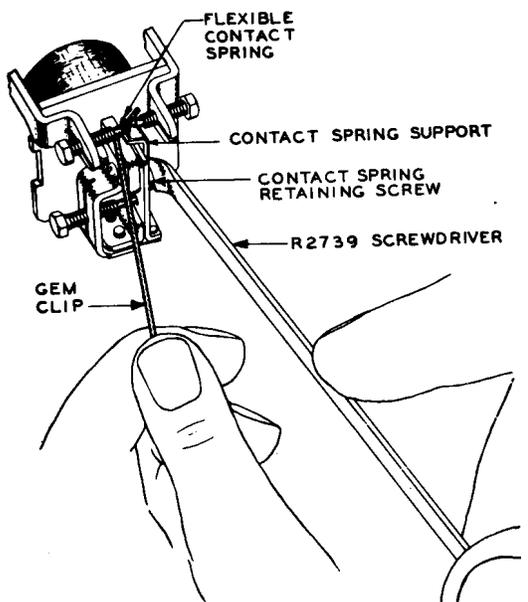

Fig. 8 - Method of Aligning the Contact Spring and Contact Spring Support
- (1) If the contacts are out of alignment, vertically, check whether the studs on the contact screw brackets rest in the slots in the spoolhead. This can be done by inserting the P-220366 dental mirror, tilted at a slight downward angle, directly behind the front spoolhead and examining each stud. In general, if the studs do not rest in the slots, they can be repositioned manually.
(2) If the studs are in the slots and the contacts are out of alignment, loosen the contact spring retaining screw with the R-2739 offset screwdriver. Move the contact spring up or down or in or out as required, and tighten the contact spring retaining screw. On relays with flexible contact springs, while tightening the screw, hold the contact spring and contact spring support in alignment with a gem clip as shown in Fig. 8 in order to prevent the spring from twisting in such a way that it will not rest against its support and the contacts be misaligned. On hinge-type relays, if a slight additional movement is necessary to align the contacts vertically or horizontally, loosen the vertical hinge screws slightly with the R-2739 screwdriver and shift the armature as required. While holding the armature firmly in position, tighten the hinge screws.